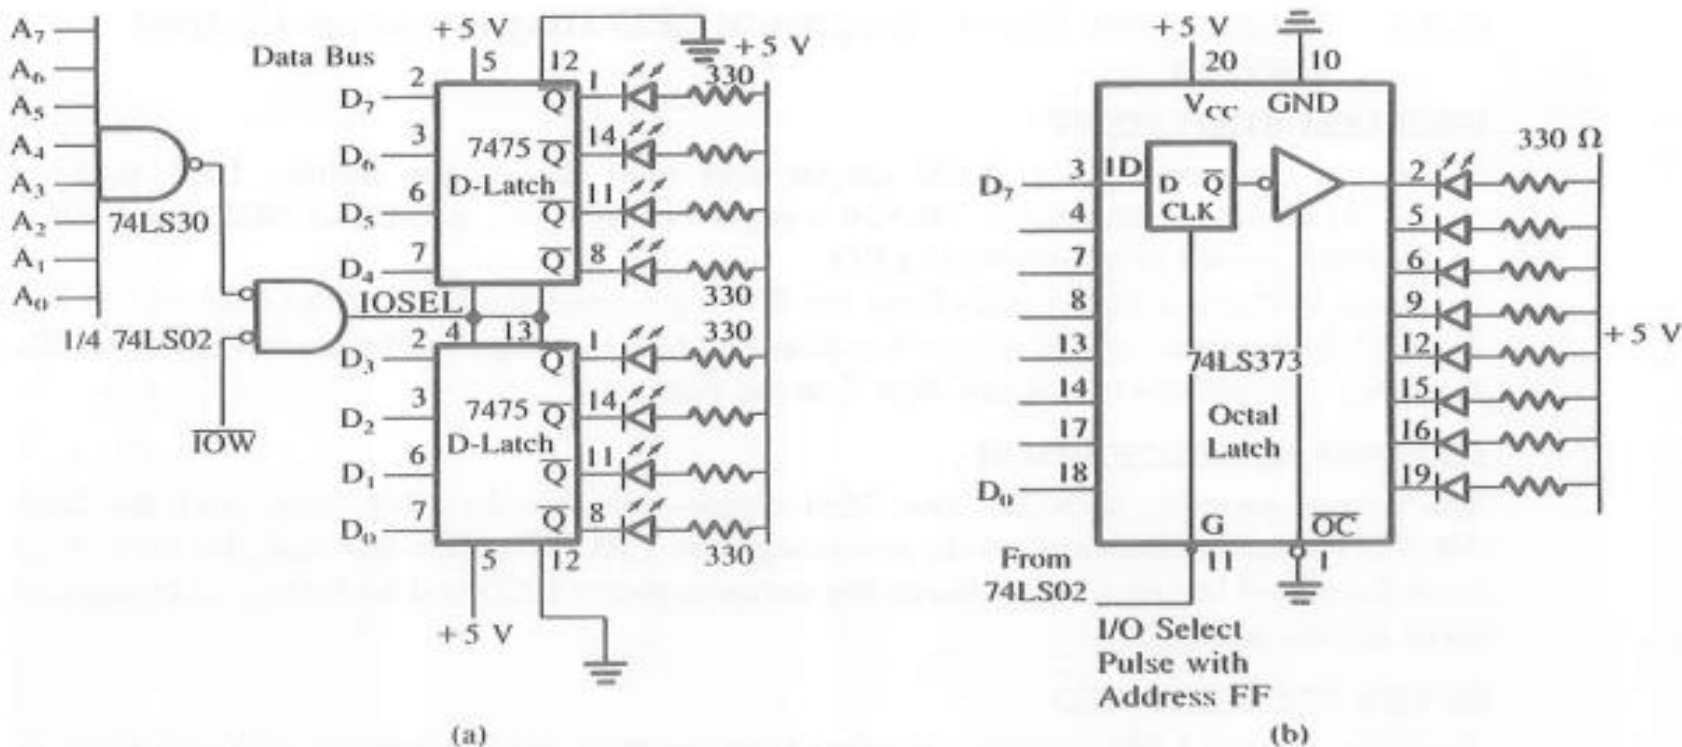

FIGURE 5.8
1. Analyze the interfacing circuit in Figure 5.8(a), identify the address of the output port, and explain the circuit operation.
2. Explain similarities between (a) and (b) in Figure 5.8.